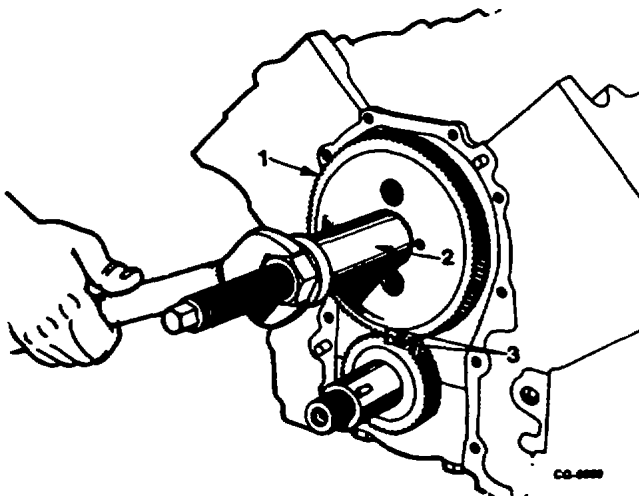

Figure 134. Installing Camshaft Gear
- g. Rotate crankshaft and camshaft to see that gears do not bind or interfere. Using dial indicator, check camshaft end play (Figure 134) and camshaft gear-to-crankshaft gear backlash.